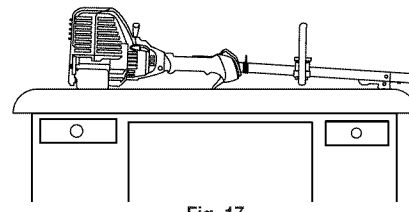

Fig. 17
- Place the engine on a flat, level surface with the cutting head shield hanging off a work bench or table to get a proper oil level reading (Fig. 17).